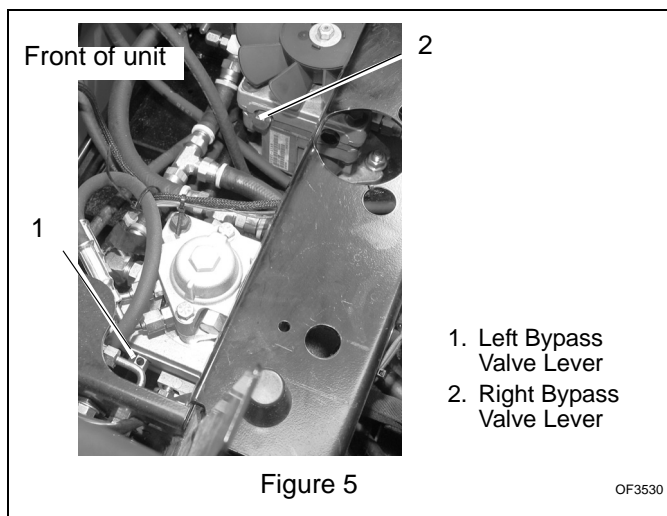

Figure 5
3. Turn right and left bypass valve levers counter clockwise 1/2 turn (Figure 5).